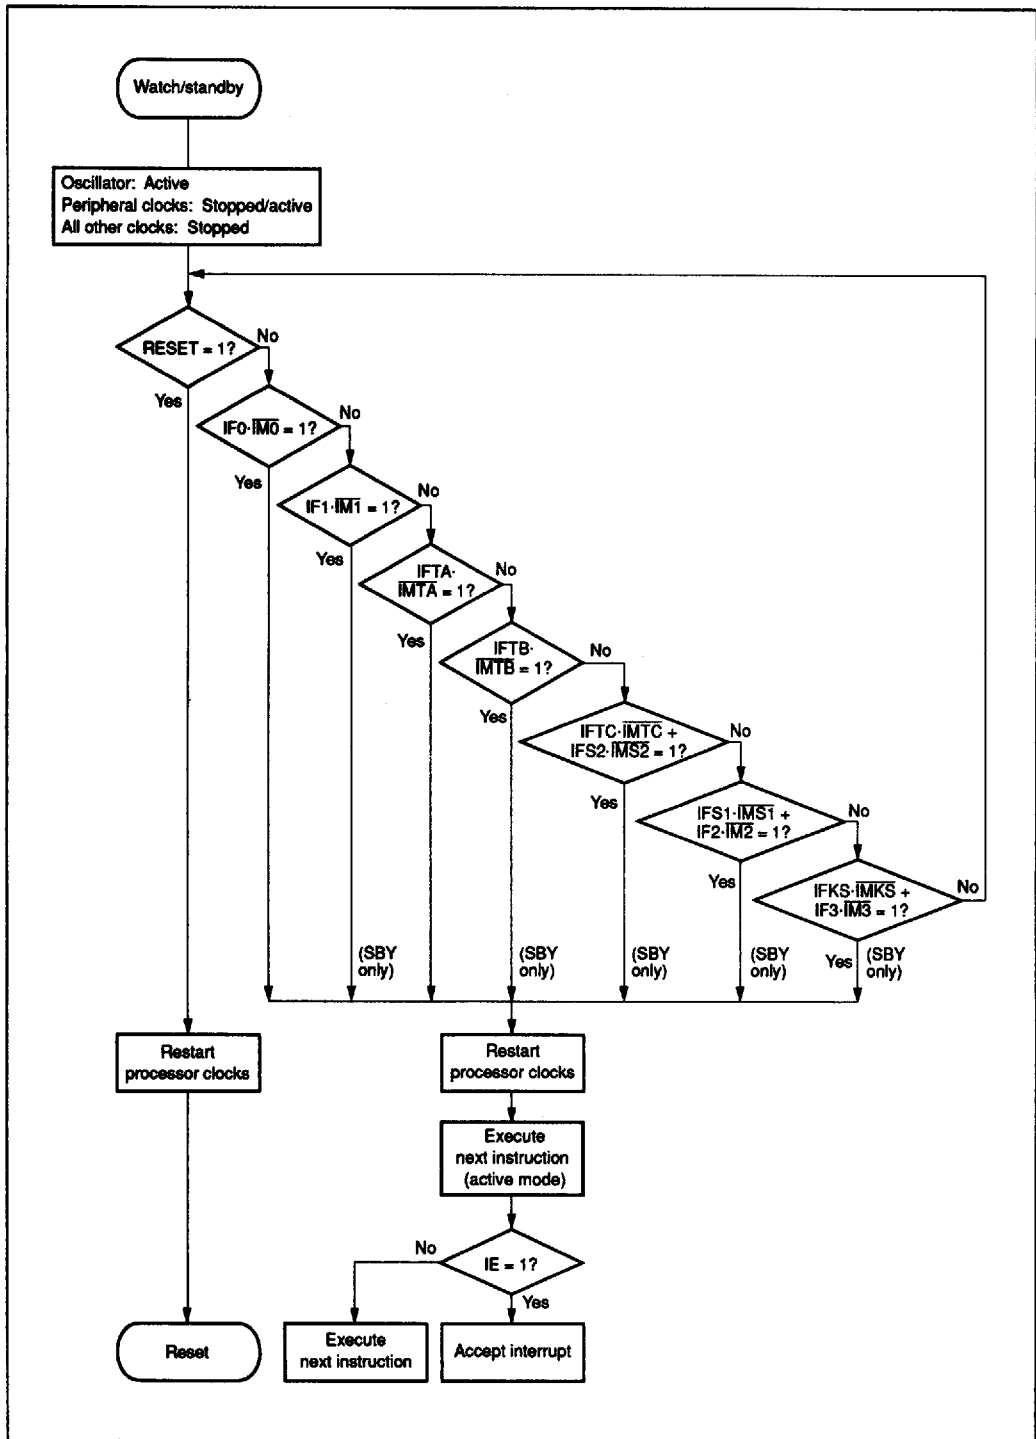
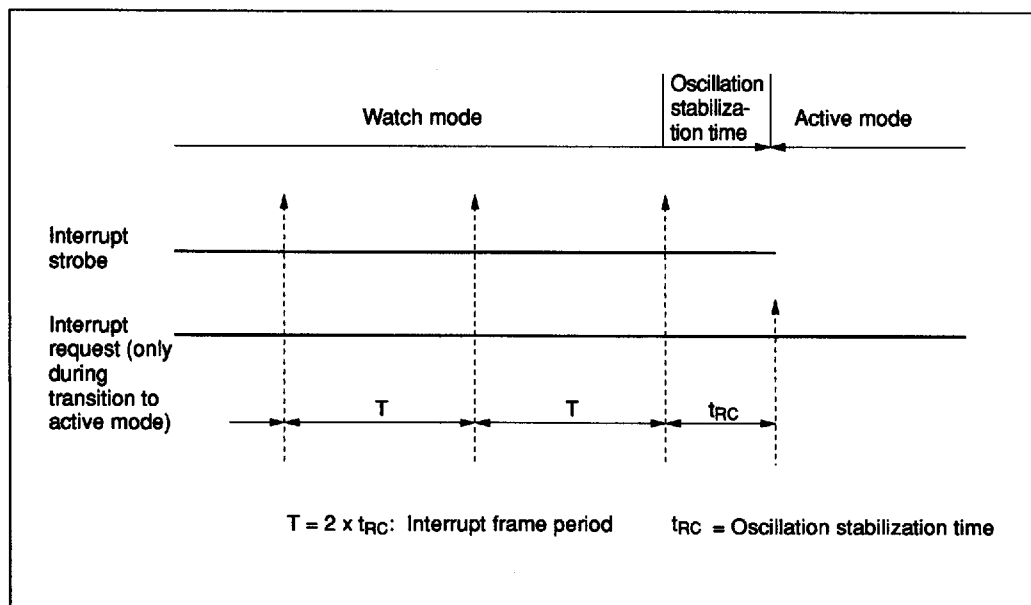

Figure 15 Flowchart of Watch and Standby Modes
Figure 17 Interrupt Frame
Standby mode may be cancelled by inputting RESET or by asserting an interrupt request. In the former case the MCU is reset. In the latter case, the MCU becomes active and executes the next instruction following the SBY instruction. If the interrupt enable flag is 1 when an interrupt request is asserted, the interrupt is executed, while if it is 0, the interrupt request is put on hold and normal instruction execution continues. A flowchart of operation in standby mode is shown in figure 15.
The watch mode is terminated by a RESET input or a timer-A/ $\overline{INT_0}$ interrupt request. For details of RESET input, refer to the Stop Mode section. When terminated by a timer-A/ $\overline{INT_0}$ interrupt request, the MCU enters active mode if LSON is 0 or subactive mode if LSON is 1. Any interrupt request generated for the transition to active mode is delayed for half the interrupt frame period (t_{RC}) to give the oscillation time to stabilize (figure 17). Operation during mode transition is the same as that at standby mode cancellation (figure 15).
Interrupt Frame: In watch and subactive modes, ϕ_{CLK} is supplied for timer A and the $\overline{INT}_0$ circuit. Prescaler W and timer A operate as time bases to generate interrupt frame timing. Three interrupt frame cycles (T) can be selected by the settings of miscellaneous register 1, as shown in figures 17 and 18.